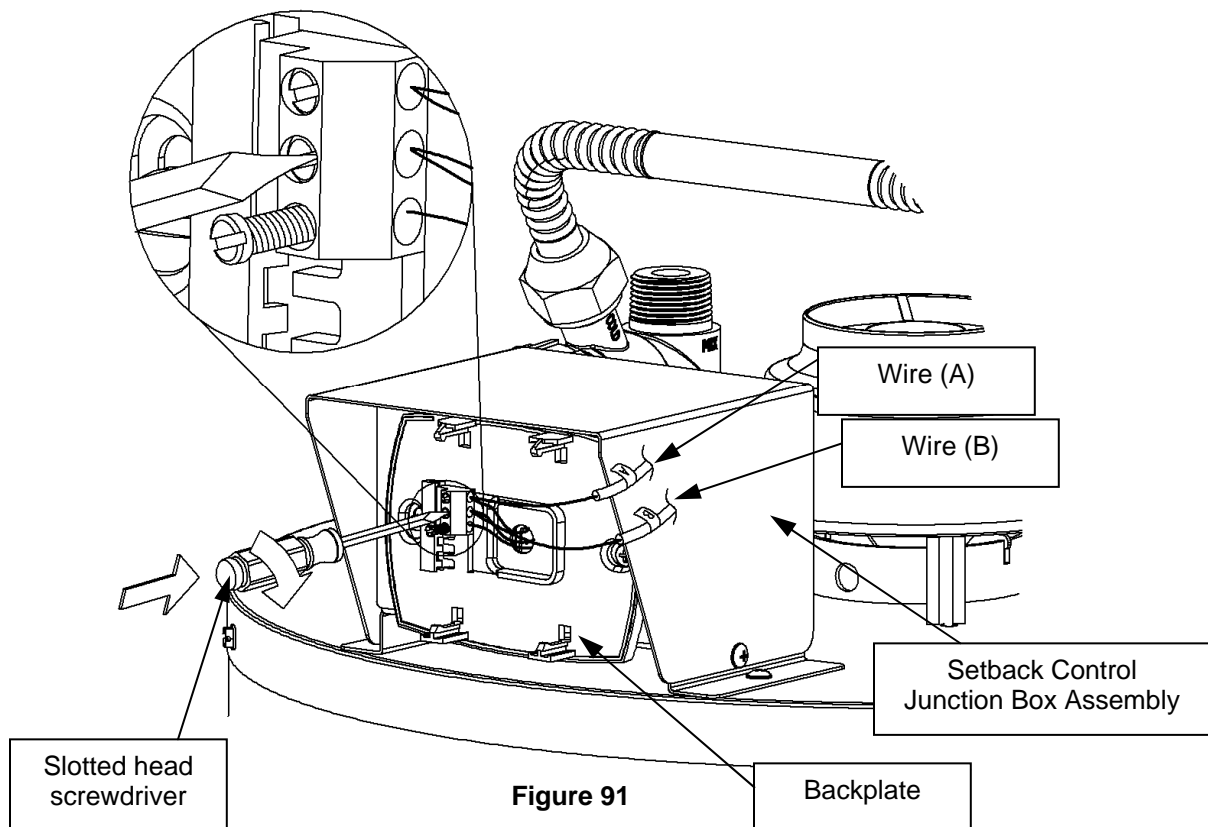

Figure 91
Step 10: Tighten the slotted screw in the middle terminal location on the backplate (located on the Setback Control Junction Box Assembly). This is shown in Figure 91.